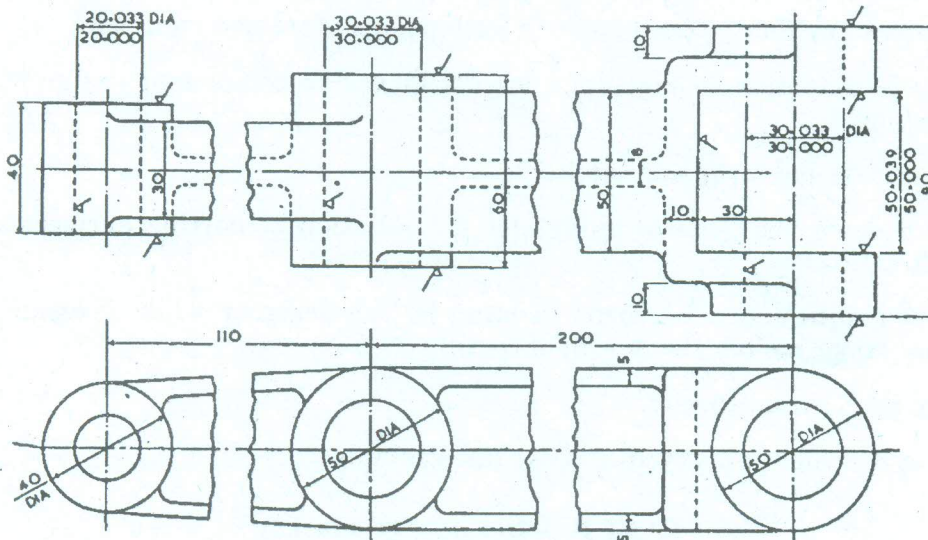

Fig. 1 FULCRUM LEVER – CI
- (b) (i) Explain how component design facilitates machining with suitable sketches. (8)
- (ii) Explain how component design facilitates economy, clampability, accessibility and assembly with suitable examples. (8)
14. (a) Indicate the probable parting line for the fulcrum lever in Figure 1 and briefly state the reasons for the choice. Show two design modifications which, whilst maintaining as a similar weight and stability of casting, will reduce or eliminate the need for sand cores.